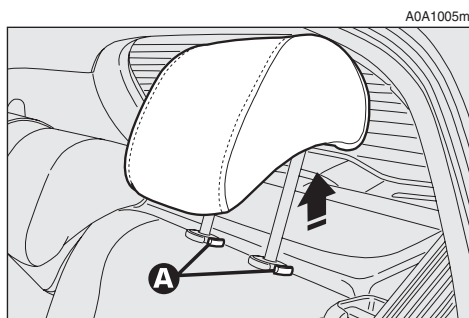

fig. 24
- raise the headrests to the maximum height and then press both the buttons (**A-fig. 24**) on the two supports side, then pull the headrests upwards and remove them;